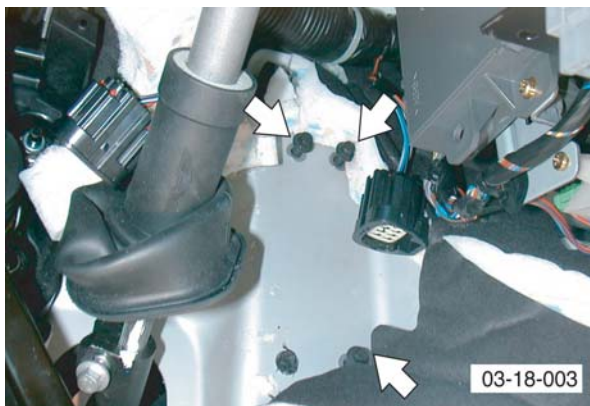

Figure 1
2. Remove securing bolts (3) (see Figure 1).